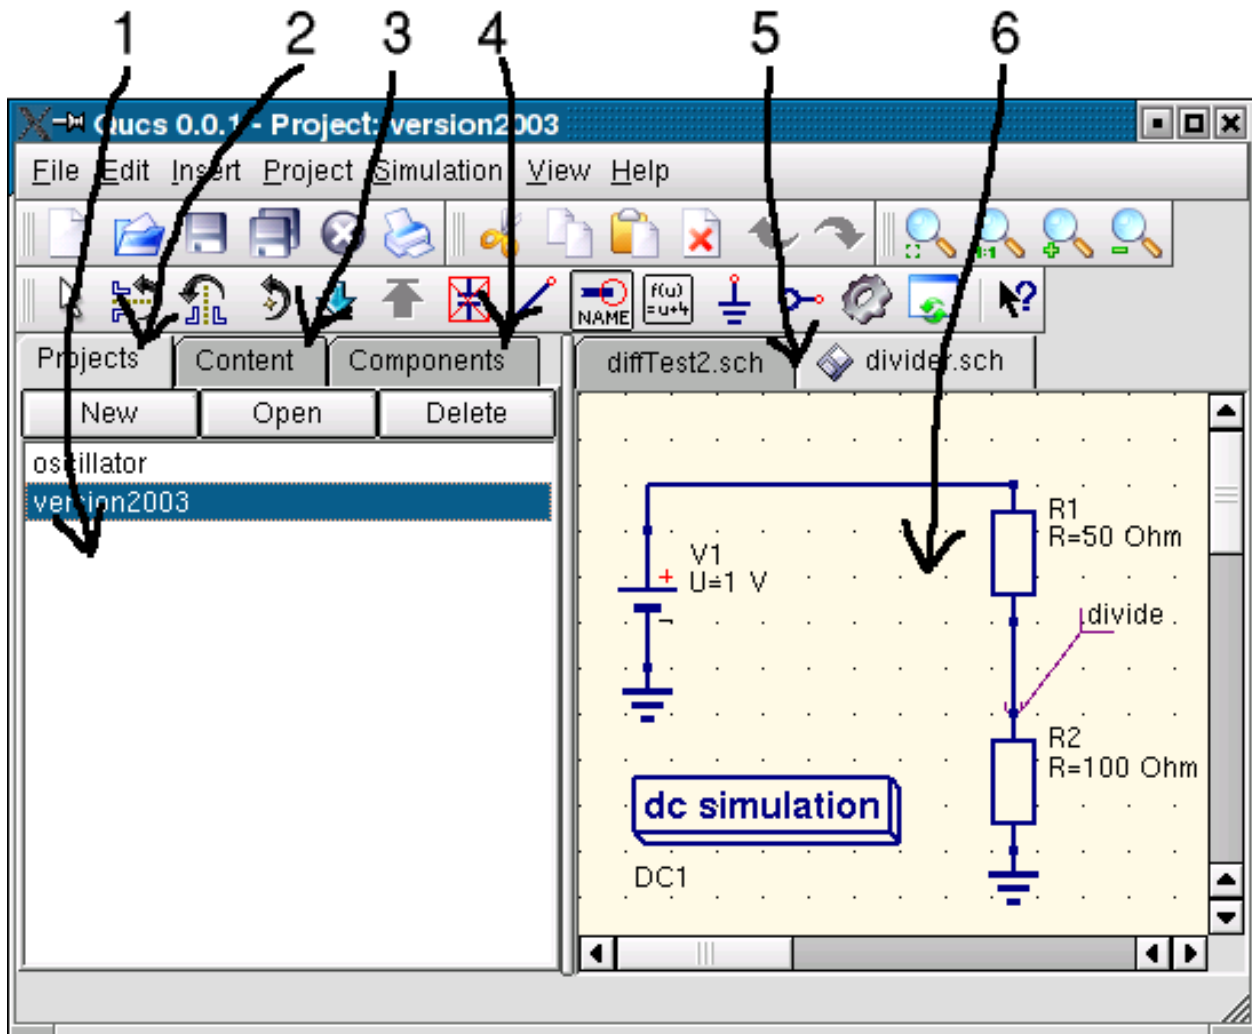

Figure 1 - Qucs main window
When you start Qucs the first time, it creates the directory ".qucs" within your home directory. Every file is saved into this directory or into one of its subdirectories. After Qucs has been loaded, one sees the main window looking similar like the one in figure 1. On the right side, there is the working area (6) containing the schematics, data displays and so on. Using the tabular bar (5) above this area, you can quickly switch to every document currently open. On the left side of the Qucs main window, there is another area (1), whose content depend on the status of the above-lying tabular bar: "Projects" (2), "Content" (3) and "Components" (4). After running Qucs, the "Projects" (2) tab is activated. As it is the first time you started this program, the area is empty because you haven't yet any project. Press the "New" button right above the area (1) and a dialog opens. Enter the name for your first project, e.g. "firstProject" and press the "Ok" button. Qucs creates a project directory into the ~/.qucs directory, for this example "firstProject\_prj". Every file belonging to this new project will be saved within this directory. The new project is immediately opened (as can be read on the window title bar) and the tabular bar is switched to "Content" (3), where the content of the currently opened project is displayed. You do not yet have any document, so press save button on the toolbar (or use the main menu: File->Save) in order to save the untitled document that still fills the working area (6). You will be ask for the name of your new document. Enter "firstSchematic" and press the "Ok" button.
Now we want to make a simple DC simulation, i.e. we want to analyse the circuit in figure (1). Activate the “Components” tab (4) in figure 1). There, you see a combo box where you can choose a component group and, below, the components of the chosen component group. Choose “lumped components” and click on the first symbol: “Resistor”. Moving the mouse cursor into the working area (6) you are carrying a drawing of a resistor symbol. Pressing the right mouse button rotates the symbol, pressing the left mouse button places the component onto the schematic. Repeat this process for all components shown in figure 1. The voltage source can be found in the “sources” component class, the ground symbol can be taken from “lumped components” class or from the toolbar, the wanted simulation is defined by the big simulation blocks found in the “simulations” component class. To edit the parameters of the second resistor, double-click on it. A dialog opens where you can change the resistance. Enter “100 Ohm” into the edit field on the right side and press enter.
Last but not least, you must label the node where you want Qucs to calculate the voltage. Press on the label toolbar button (or use the menu: Insert->Wire Label). Now click on the chosen wire. A dialog opens and you can enter the node name. Type “divide” and click the “Ok” button. Now the circuit should look like the one in figure 1.